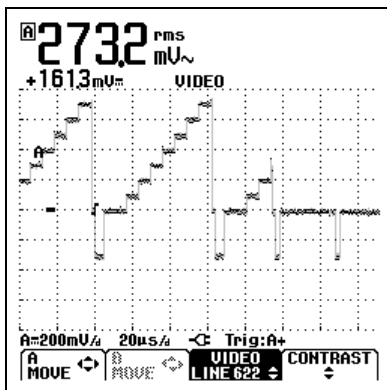

Figure 4-9. Test Tool Screen for PAL/SECAM
- 622 for PAL or SECAM, see Figure 4-9